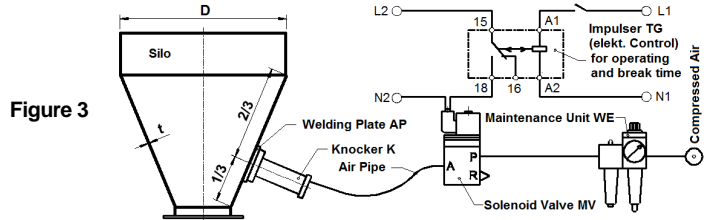

Figure 3
4.5 The Pneumatic Knocker will be mounted as shown in **Figure 3**. The welding plate AP is to be welded directly onto the silo cone. In case of smaller diameters the welding plate of type **APTxxx** will be used. In case of insulated or rubberized walls as well as in case of silos of aluminum special fastening plates are required.